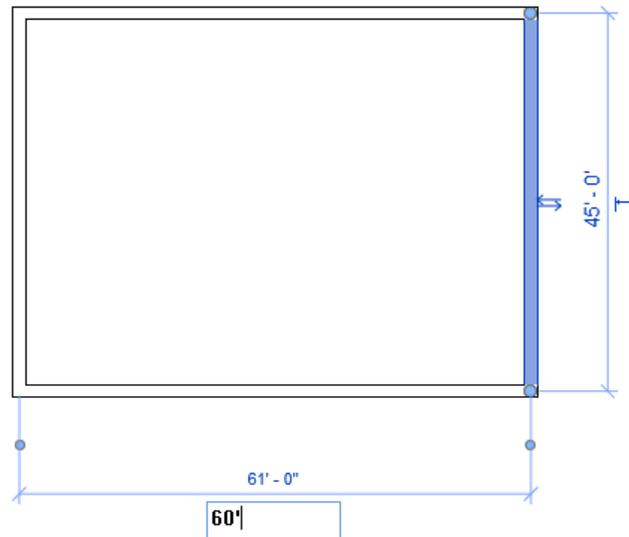

Figure 3-79 Entering horizontal dimension in the edit box
- Click on the horizontal temporary dimension and enter **60'**(18288 mm) for the horizontal wall, as shown in Figure 3-79. Press ENTER.